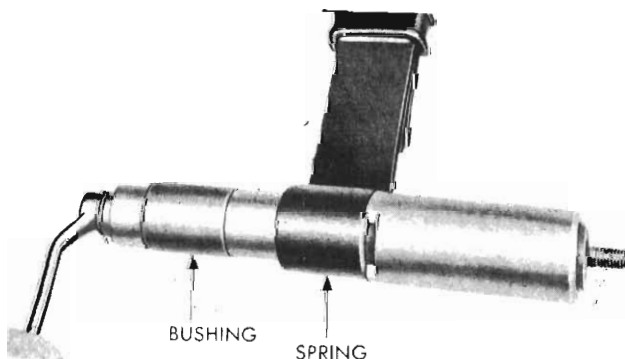

Fig. 4 - Removing and installing spring bushing (Tool E17C10A).
(1) Raise vehicle so spring is relaxed with rear wheels just touching the floor. Do not permit weight of rear axle to be suspended on fully extended shock absorbers.
(2) To replace the front bushing, remove the front hanger from the body bracket. Remove the pivot bolt and hanger.
(3) Place the new bushing on tool E17C10 or E17C10A, as shown in *Fig. 4*. Arrange tool on spring eye then press out old bushing whilst pressing in new bushing, in one operation.